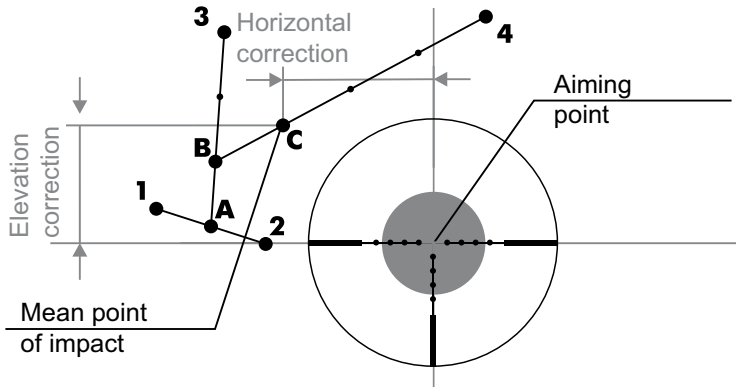

Figure 12
- draw a straight line between two holes nearest to each other (1, 2 figure 12);
- divide the obtained interval in half and, from this point A, draw a straight line to the third hole (3);
- divide the obtained interval in three equal parts from the point B, nearest to the point A, draw a straight line to the fourth hole (4);